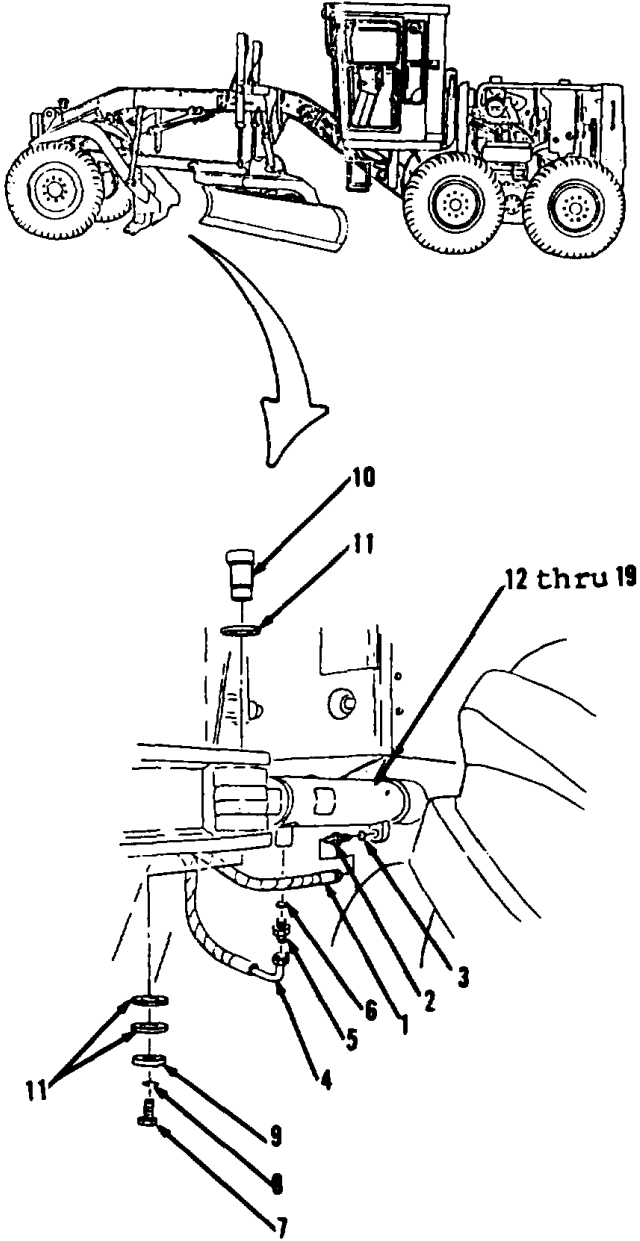

Figure 10-136.
- 2. Disconnect hose assembly (1, Figure 10-136) from center left side of vehicle.
- 3. Remove connector (2) and preformed packing (3). Discard preformed packing (3).
- 4. Disconnect hose assembly (4).
- 5. Remove connector (5) and preformed packing (6). Discard preformed packing (6).
- 6. Remove bolt (7), lockwasher (8) and washer (9) from rear, left side of front frame.